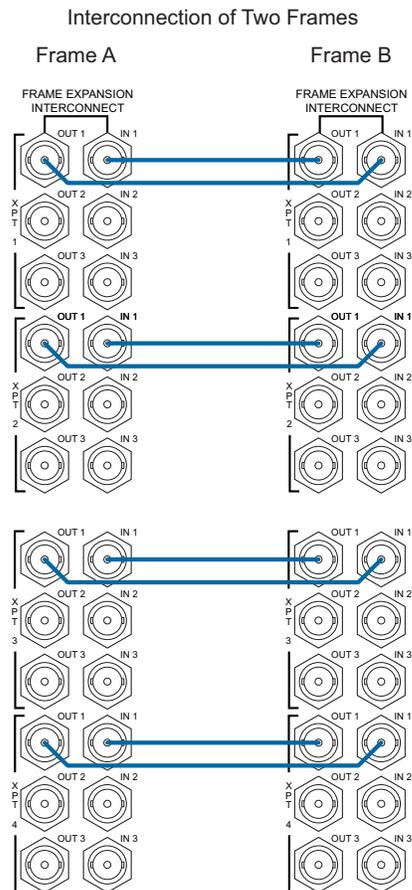

Figure 3-18. 10Base2 Ethernet Frame Expansion Connection
- 2 Connect between frames using two BNC connectors and 50Ω cables to the 10Base 2 connector on each frame, looping serially from one frame to the next, making connections as shown in Figure 3-18.
Use the following table as a reference when making frame expansion connections. The IN and OUT numbers correspond to the numbers listed next to each frame expansion connector, as show in Figure 3-18